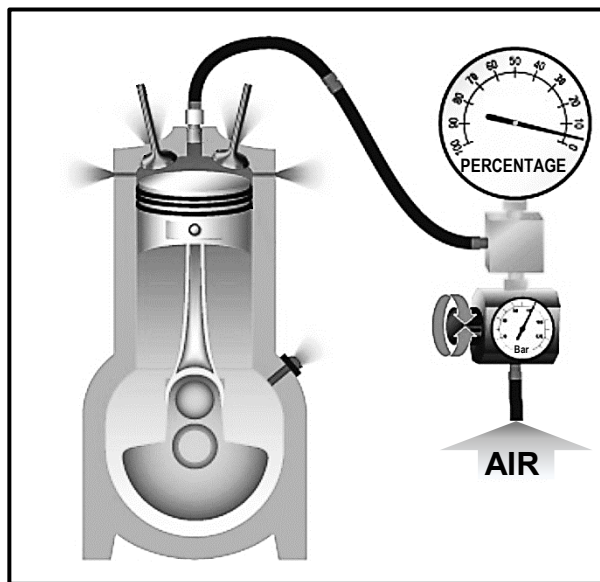

FIGURE 4.1
- 4.1 Identify the test that is conducted in FIGURE 4.1 below.